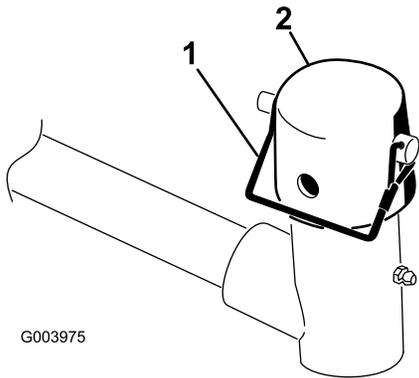

Figure 9
7. Remove the snapper pin and the cap from the lift-arm-pivot yoke (**Figure 9**).
11. Secure the cap and the carrier-frame shaft to the lift-arm yoke with the snapper pin (Figure 9).